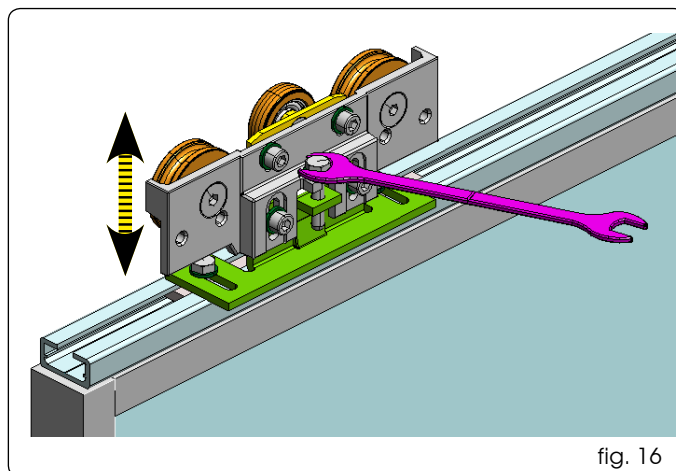

fig. 16
- Turn the screw (fig.16) clockwise to raise the leaves or anti-clockwise to lower them.